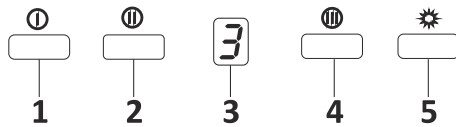

Fig. 13: 3 Spd Dig Button
1. ➤ Press this button to turn on the product. Product will also run on 1st speed level when this button is pressed. Fig. 13
2. ➤ Product will run on 2nd speed level when this button is pressed. Fig. 13
3. ➤ Dig display You can follow which speed the product is currently working on this display. Fig. 13
4. ➤ Product will run on 3rd speed level when this button is pressed. Fig. 13
5. ➤ Press this button to turn on and off the lamp. Fig. 13
6. ➤ Pressing and holding any of the motor operation buttons for more than 2 seconds will initiate a timer function of 15 minutes. A signal will be Displayed once the timer starts and the motor will stop automatically after 15 minutes. Fig. 13